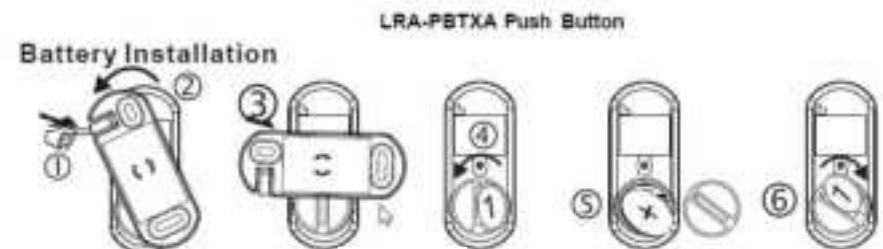

Figure 3
1. Flip over the push button so the back mounting plate faces you. (see figure 3).
The push button may be mounted using the supplies mounting screws or supplied double-sided mounting tape (see Figure 4). Remove the backplate of the push button (see Figure 3) and mount it to the wall. The push button then snaps onto the mounting plate (see Figure 5).